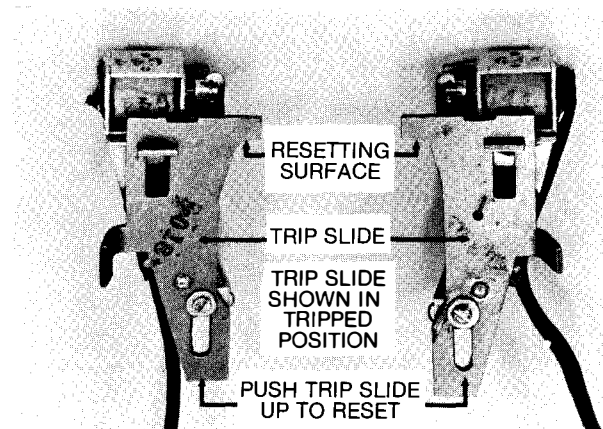
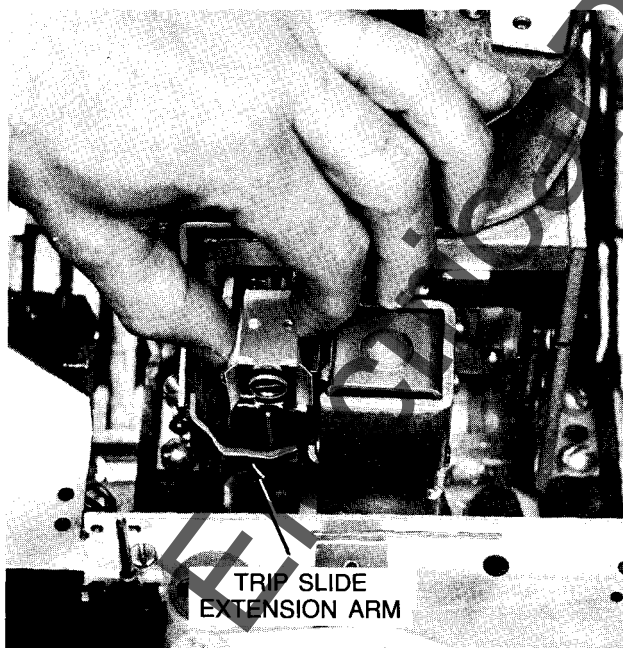
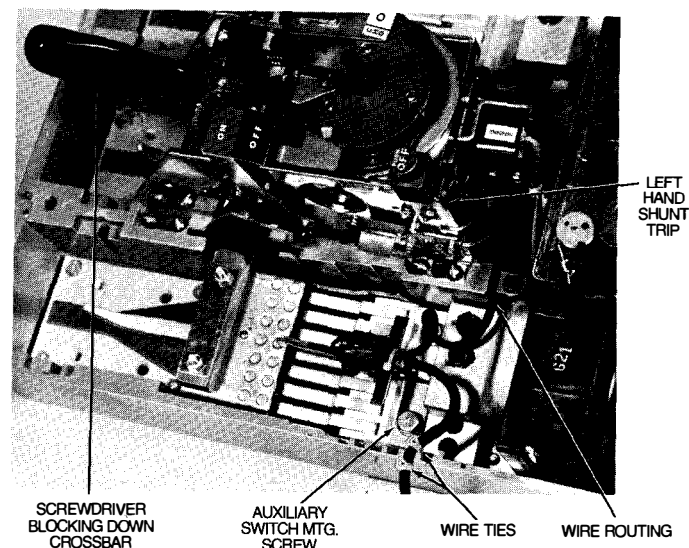

Figure 26-L Shunt Trip Device—Left Side Mounted. Figure 26-R Shunt Trip Device—Right Side Mounted.
Figure 28. View of Left Hand Shunt Trip Mounting
Figure 30.
1. Crank the operating handle twice before removing the cover or block the crossbar down as shown in Figure 30. Either of these actions will position the resetting pin below the shunt trip slide resetting surface. (See Figures 26 and 29.)
2. For left side mounted device, see Figure 26-L. Insert shunt trip leads into mechanism above the trip slide extension arm so that leads come out of the mechanism below the extension arm. See Figure 28.
- a. Reset the trip slide as shown in Figure 26 and place the shunt trip device inside the breaker mechanism frame, as shown in Figure 28 or 29.
NOTE: The left side mounted device requires some care in maneuvering it through the space between the breaker trip slide and latch assembly. (See Figure 28.)
- b. Discard the plain washer and install the switch assembly, as shown in Figure 30 using bolt and lockwasher.
4. Install wire ties on wire bundle on the inside and outside of base to provide strain relief. See Figure 30.
5. Install wire ties on wire bundle(s) on the inside and outside of base to provide strain relief. See Figure 30.